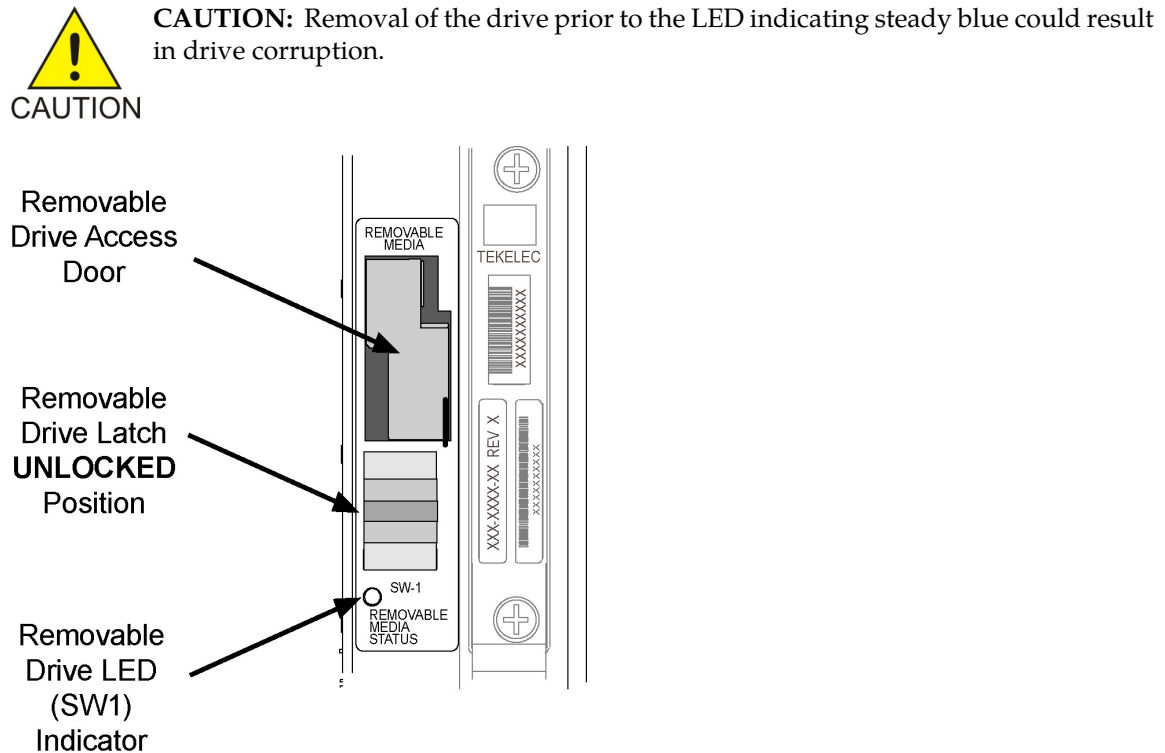

Figure 7: Removable USB Drive UNLOCKED
2. Move SW1 from the LOCKED to the unlocked position and wait for the LED to indicate a steady blue state. See Figure 7: Removable USB Drive UNLOCKED.